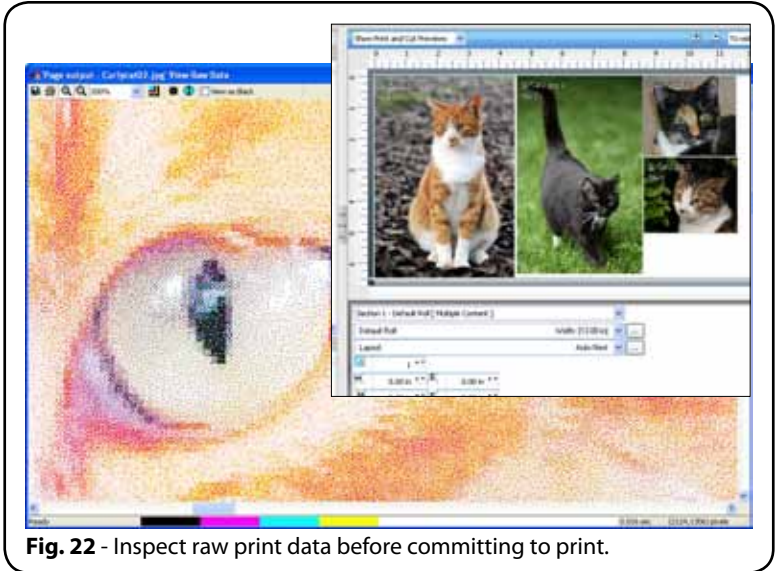

Fig. 22 - Inspect raw print data before committing to print.
- **Preview Raw Print Data** – Inspect print data on-screen prior to printing (Fig. 22), so that print data can be confirmed on a per color channel basis.